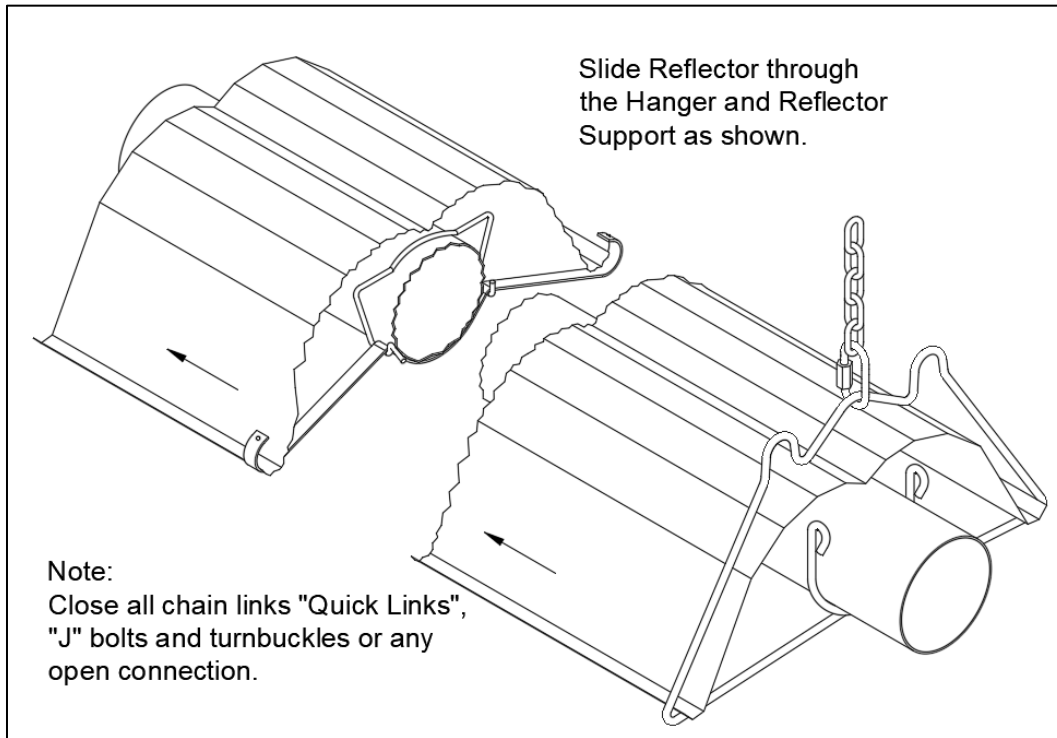

Figure 12: Reflector Installation
- Slide a reflector section into place within the support hanger, (Figure 12).